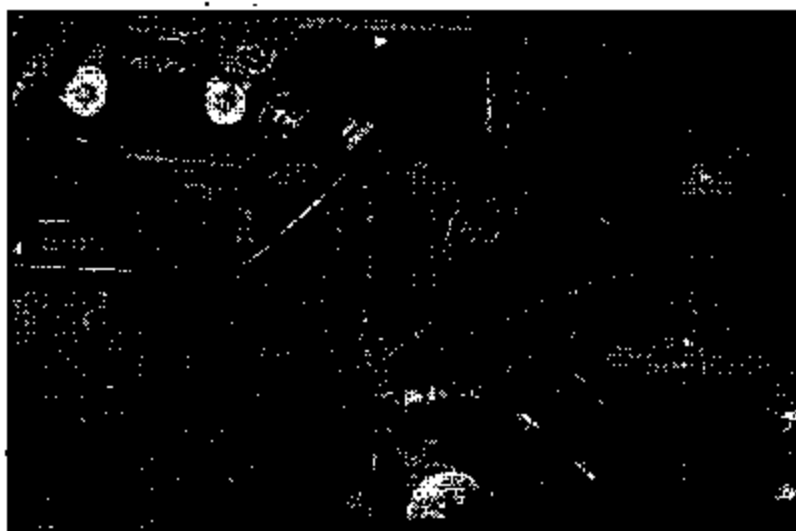

FIG. 5-1
13. Refer to FIG. 5-1. Secure the fan motor hose to fuel hose with a tie strap. It is acceptable to capture the grid heater harness as shown.
18. Refer to the rear view of the pump in FIG. 5-1. Install a 90° fitting into the steering gear port, and orient within the 7 and 8 o'clock positions. Torque nut to 27 +/- 2 lb. ft.